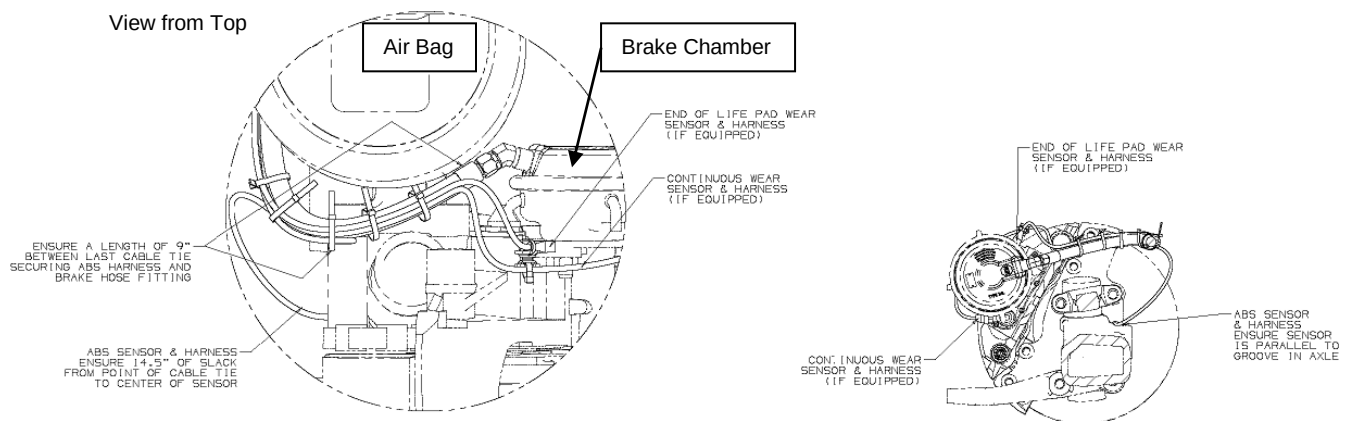

Figure 5A: Street Side ABS & End of Life Sensor Wiring Routings.
- a. The ABS sensor and brake wear sensor wiring must be secured at specific locations to ensure that they will not chafe on other suspension components through the full range of wheel lock and suspension travel. See Figure 5A & 5B for locations of tyraps and wiring slack measurements on street side and curb sides.